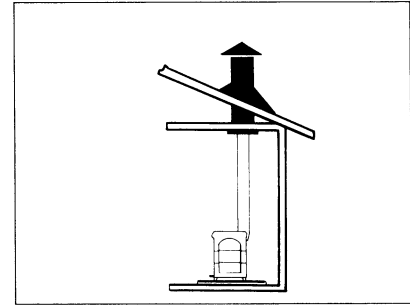

Figure 12
- (3) off the top and through the roof; (see Figure 12)